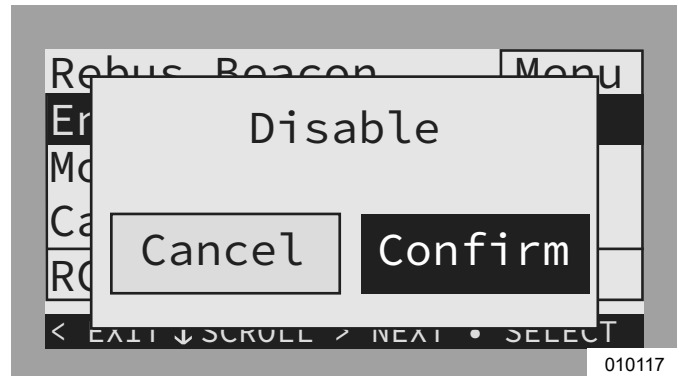

Figure 6-22. Disabling Beacon (2 of 3)
3. See Figure 6-22. Arrow right to Confirm and press the center button.